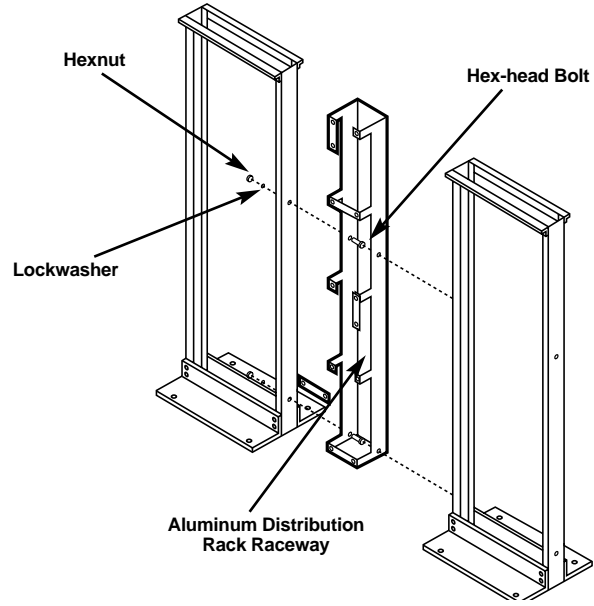

Figure 2-1. Aluminum Distribution Rack Raceway.
- A. Align the holes in the Aluminum Distribution Rack Raceway with the holes in the networking frames and attach them with the hex-head bolts, lockwashers, and hexnuts and tighten. (See **Figure 2-1** on the next page.)